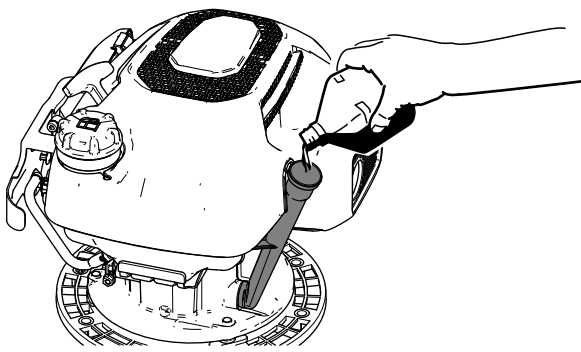

Figure 15
3. Slowly pour the specified engine oil into the oil-filler neck (Figure 15), and wait 3 minutes.